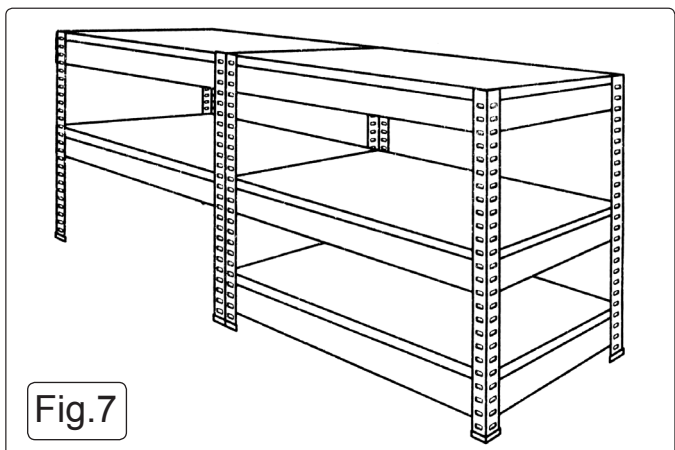

Fig.7
4.8 See Fig.7. To assemble as a bench/low level shelving unit make up two separate frames following steps 4.1 to 4.3 but with different shelving positions. Make up one frame with 3 shelves and one frame with two shelves as shown below. Ensure that the middle and top shelves on both frames are at the same height. Fix the frames together with the four nuts and bolts supplied. Place the 5 MDF shelves into position in the frames.